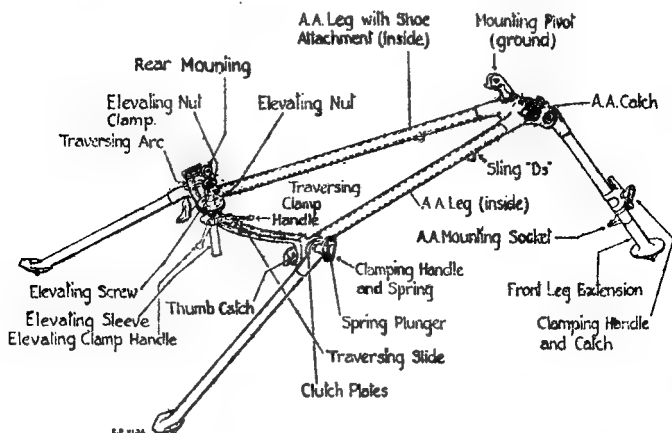

FIG. 11.—The Tripod (Ground).
2. Description of tripod (ground) (see Fig. 11).